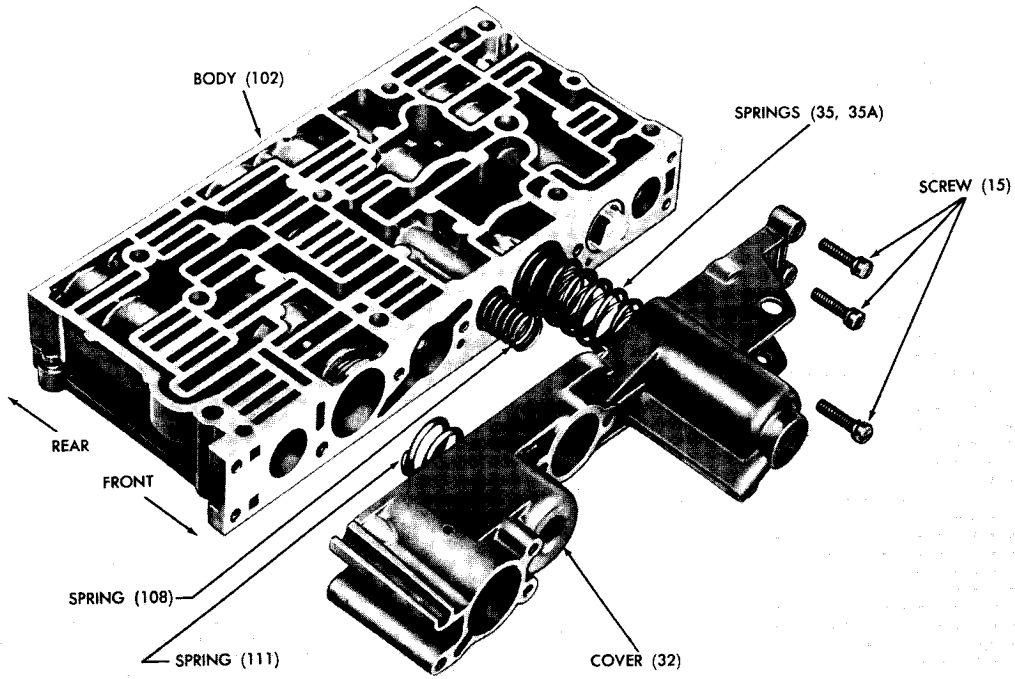

Fig. VIII-5 Control valve body and front cover — exploded view
(6) Control valve body and front cover (fig. VIII-5)